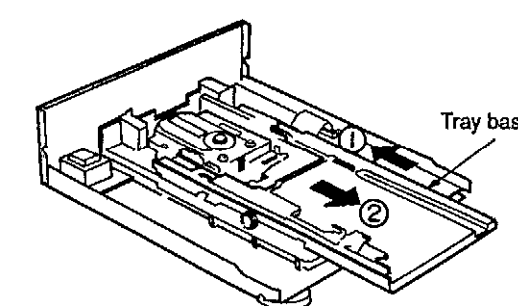

Fig.2
3. After sliding the tray base in the direction of arrow ①, draw the tray base gradually in the direction of arrow ②. (See Fig. 2)